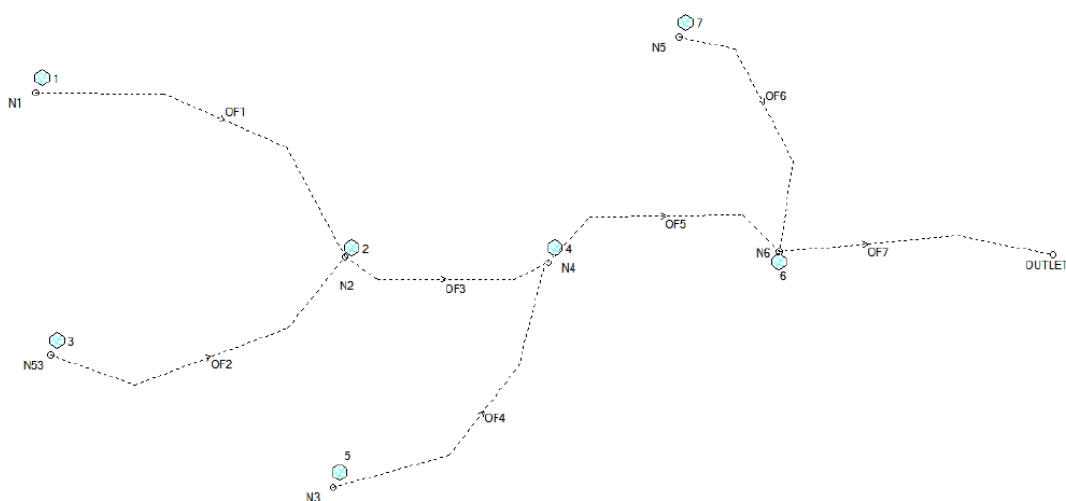

Figure 3 – Existing Site DRAINS Model
- ❖ Figure 3 Upstream Catchment Analysis – Proposed Condition Basement 1
The DRAINS model shows the location of node N2 which calculates the discharge of flow from the Dam when the flood enters the proposed site location at the Western Site Boundary. The node N4 shows the critical location as water leaves the proposed site, on the Eastern Site boundary. Refer to *Figure 3* above for the site boundary locations. The Outlet Node shows the eastern boundary of the catchment where the water travels into the Creek. The points of interest for the existing model flood analysis are N2, N4 and Outlet to creek.